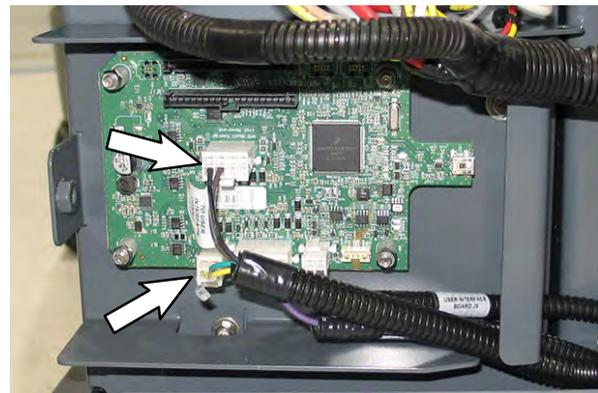
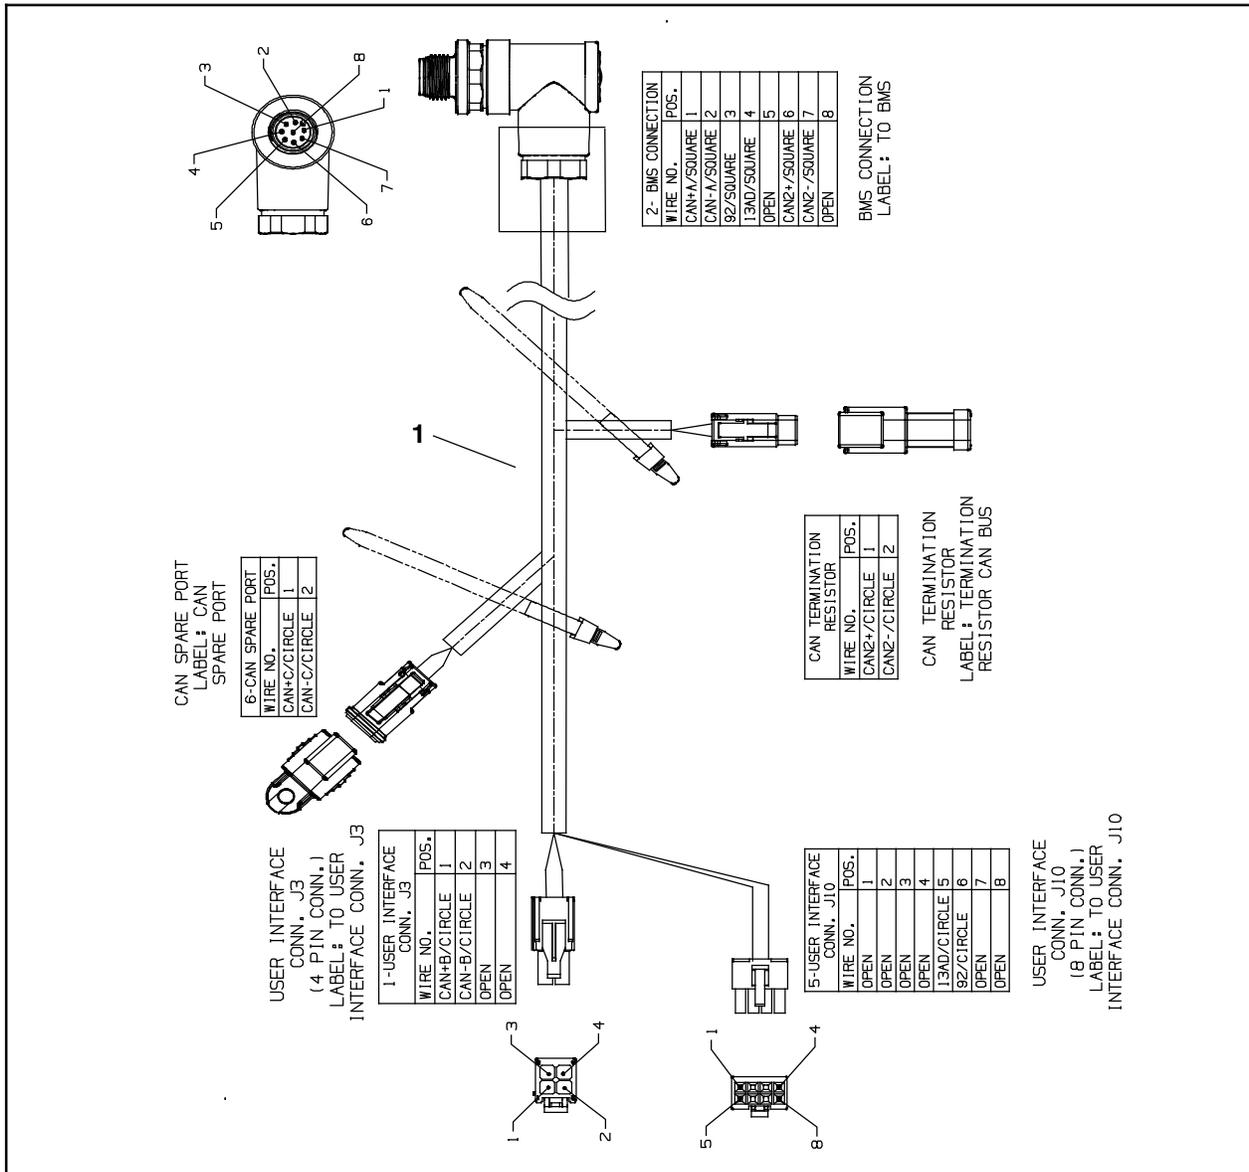

FIG. 16
FIG. 17
- Disconnect the signals UI to BMS electrical harness from the communication board J3 and J10 terminals. Discard the removed UI to BMS electrical harness. (Fig. 16)
- Connect the new signals UI to BMS electrical harness (1) to the communication board J3 and J10 terminals. (Fig. 16/Fig. 17)
- Route the new UI to BMS electrical harness (1) as the removed harness had been routed and connect the UI to BMS electrical harness to the lithium battery communication terminal. Torque the UI to BMS electrical harness ring to 0.6 Nm (0.44 ft. lbs.). (Fig. 16/Fig. 17)